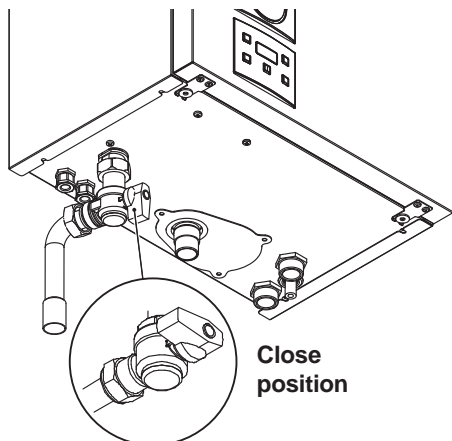

Fig. 2.11
- Shut off the gas supply cock fitted under the boiler and the valves for the water circuits Fig. 2.11;